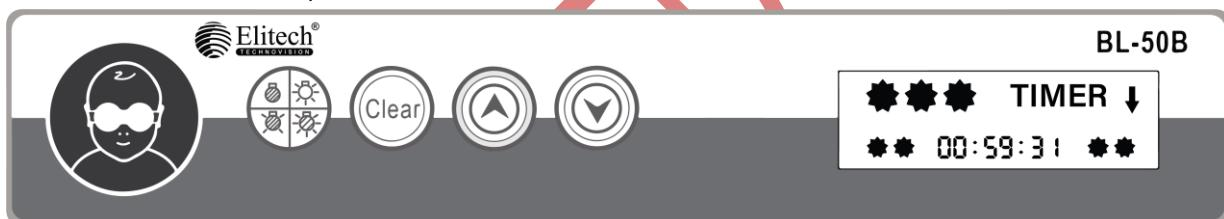

Figure 7
- 3.4. Set the time for phototherapy (turn off the lamp on time) As fig 7.